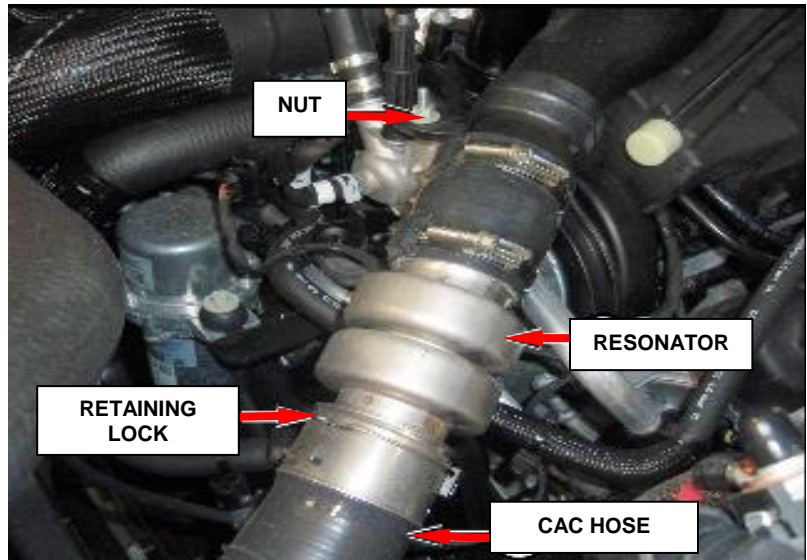

Figure 12 – Charge Air Cooler Hose
8. Remove the nut securing the left Charge Air Cooler (CAC) hose (Figure 12).
9. Release the retaining lock and disconnect the left CAC hose at the resonator (Figure 12).
10. Release the retaining lock and disconnect the CAC hose from the air cooler (Figure 12).